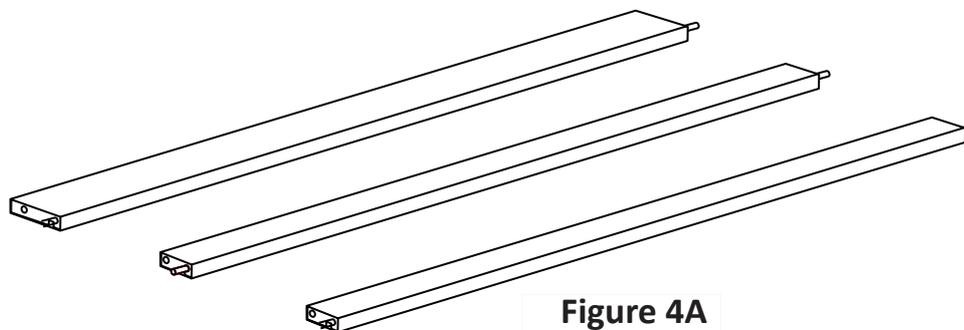

Figure 4A
- Lay one side rail(top) and two side rails(shelf) on a carpeted floor with grooves facing down, as per **Figure 4A**.